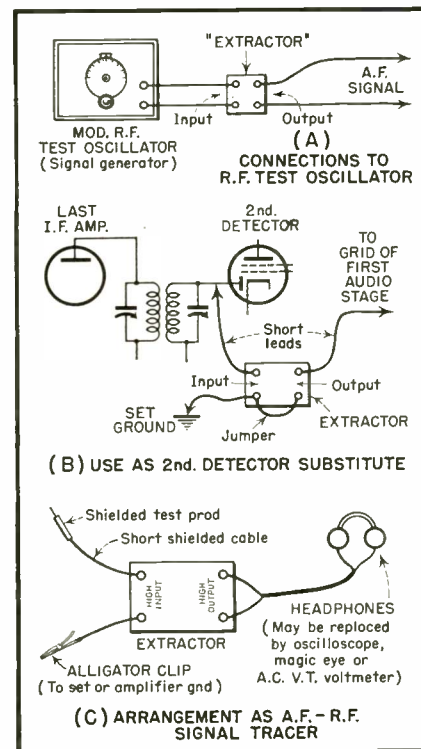

Fig. 2—A, B and C
3. Connect signal generator leads between the grid (4) of the 6AC7 sound i-f amplifier tube, and ground. For this purpose it is advisable to use a tube base pin connection such as the one shown in *Fig. 2*, and to attach the hot lead of the signal generator to this connection. This will prevent the necessity of turning over the chassis in order to make the necessary connections.
6. Peak discriminator primary trimmer (A) for loudest signal. If discriminator transformer has been properly mounted, primary trimmer will be the one which is closest to the front of the receiver.